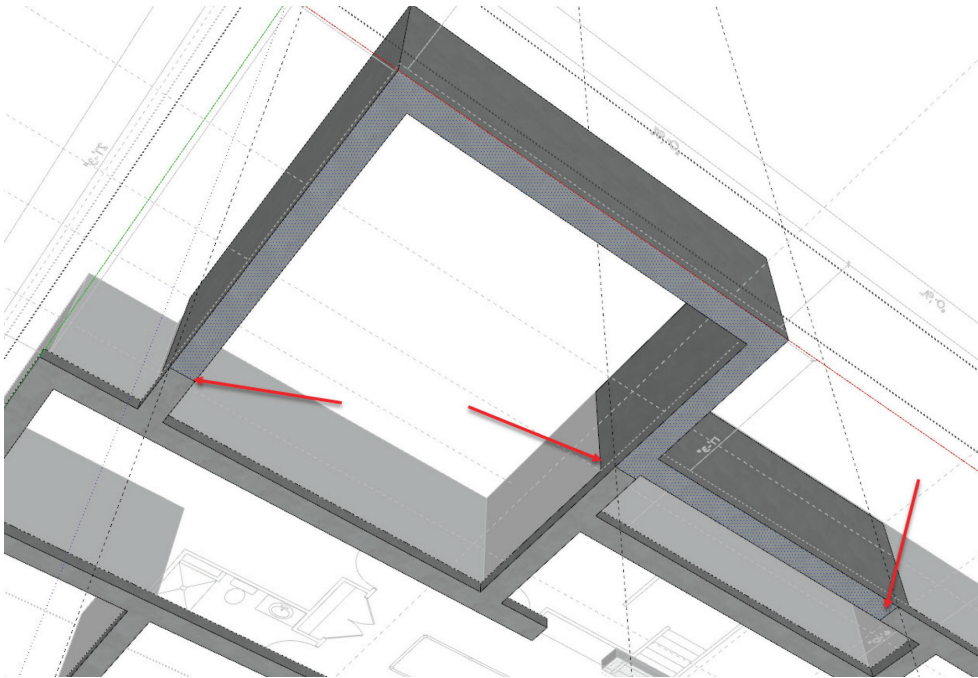

Figure 10.53 Stepped Footing 4.
While we are still in edit mode on this footing group, I draw a line (L) across the bottom face of the footing from the intersection of the guide to the opposite edge at all three locations. This will now create a new bottom face of the footing as shown in Figure 10.53.